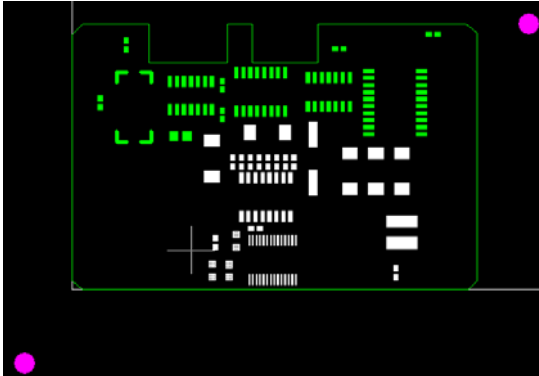

Figure 16
8. Zoom in to better view an area that contains a number of SMD 'pads' (note that they should be drawn using the Trace color because they are, in fact, not pads but traces). Use your selection tools to select a number of these features (Figure 16 shows an example of a selected area).